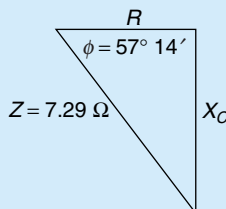

Figure 31
18. Find R and X_C in Figure 31